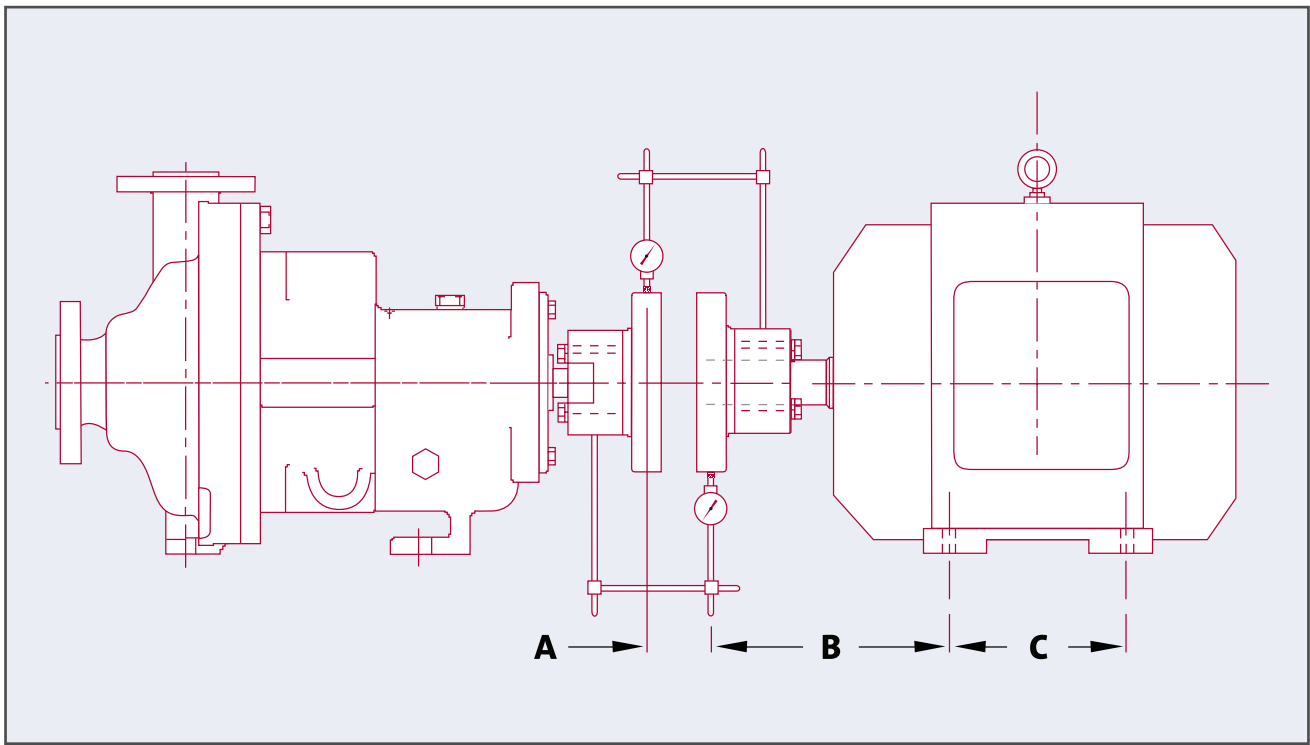

Figure 16. Reverse Dial Indicator Setup
- a. Set up the dial indicators as shown in Figure 16.
- b. Record measurements "A", "B" and "C" as shown in Figure 16.
- a. The dial indicators should still be set up as shown in *Figure 16*.